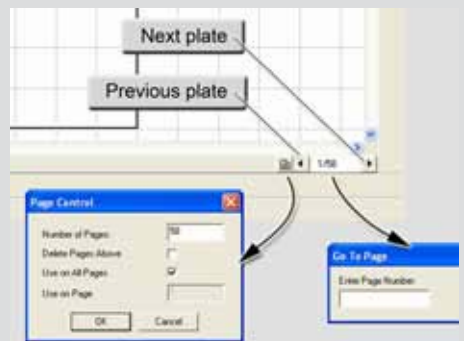

Fig. 53 - If there are additional plates of badges, then use the **Paging Tool** to browse each plate.
- If there are more badges than will fit on a single plate, the **Paging Tool** can be used to view the remaining badges. Click the **Forward** and **Back** navigation buttons to access the other badges (Fig. 53).